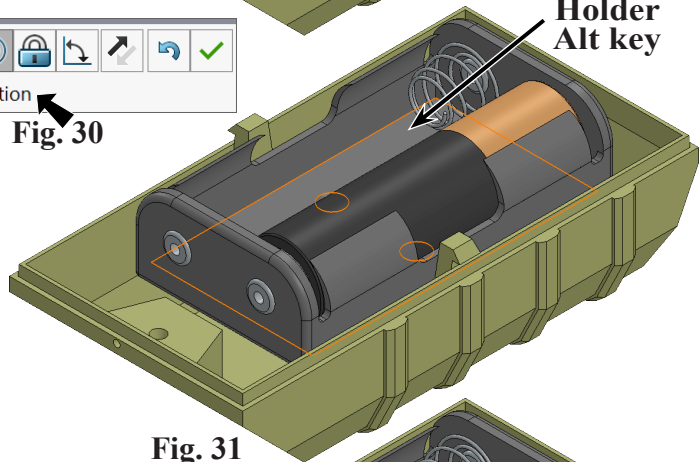
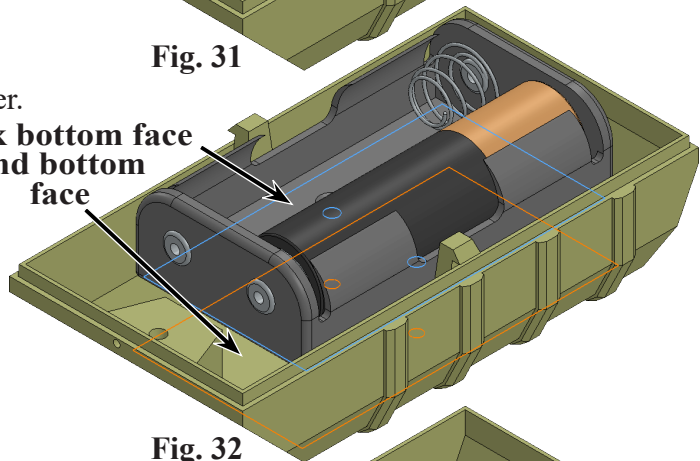

Fig. 31
Fig. 32
Step 4. **Hide top face of Holder**, **Fig. 31**, click **bottom face of Holder** and **top face of bottom of Bottom Transmitter**, **Fig. 32**.